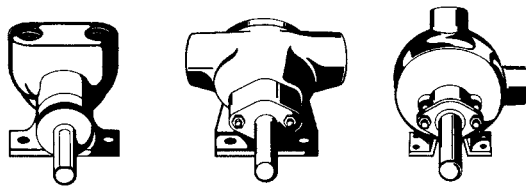
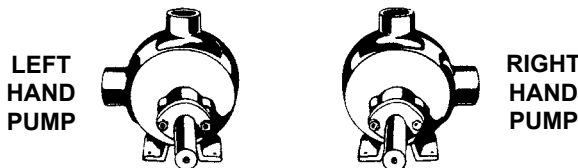

FIGURE 1
FIGURE 2
- Port Arrangement** - since the pumps have different port arrangements depending on the model, port location should be checked before starting the installation. The ports may be upright, opposite or at right angles to each other, **see Figure 1**. The right angle ports are normally right-hand, **see Figure 2**; some models are available with left-hand arrangements; still other models are available with the right angle ports located in any one of eight positions including right-hand and left-hand.